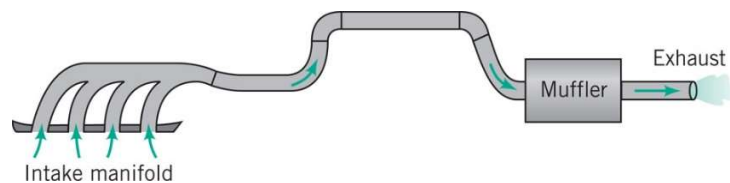

Figure 2. Problem 2
2. The exhaust from a car's engine flows through a complex pipe system as shown in Fig. 2. Assume that the pressure drop through this system is Δp_1 when the engine is idling at 1000 rpm. Estimate the pressure drop (in terms of Δp_1) with the engine at 3000 rpm when driving on a highway. List all the assumptions that you made to arrive at your answer.